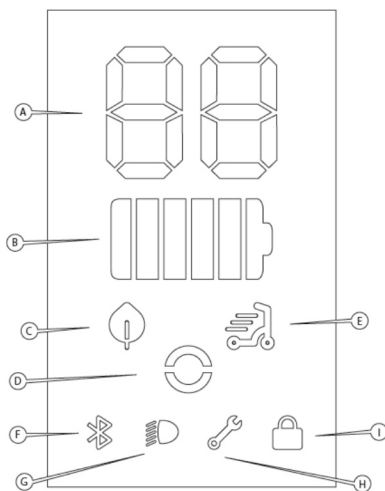

Figure 22 - Detailed view of display
5. Check that everything is correctly connected, making sure that the Bluetooth icon on the display is flashing (**See point F Figure 22 - Detailed view of display**).